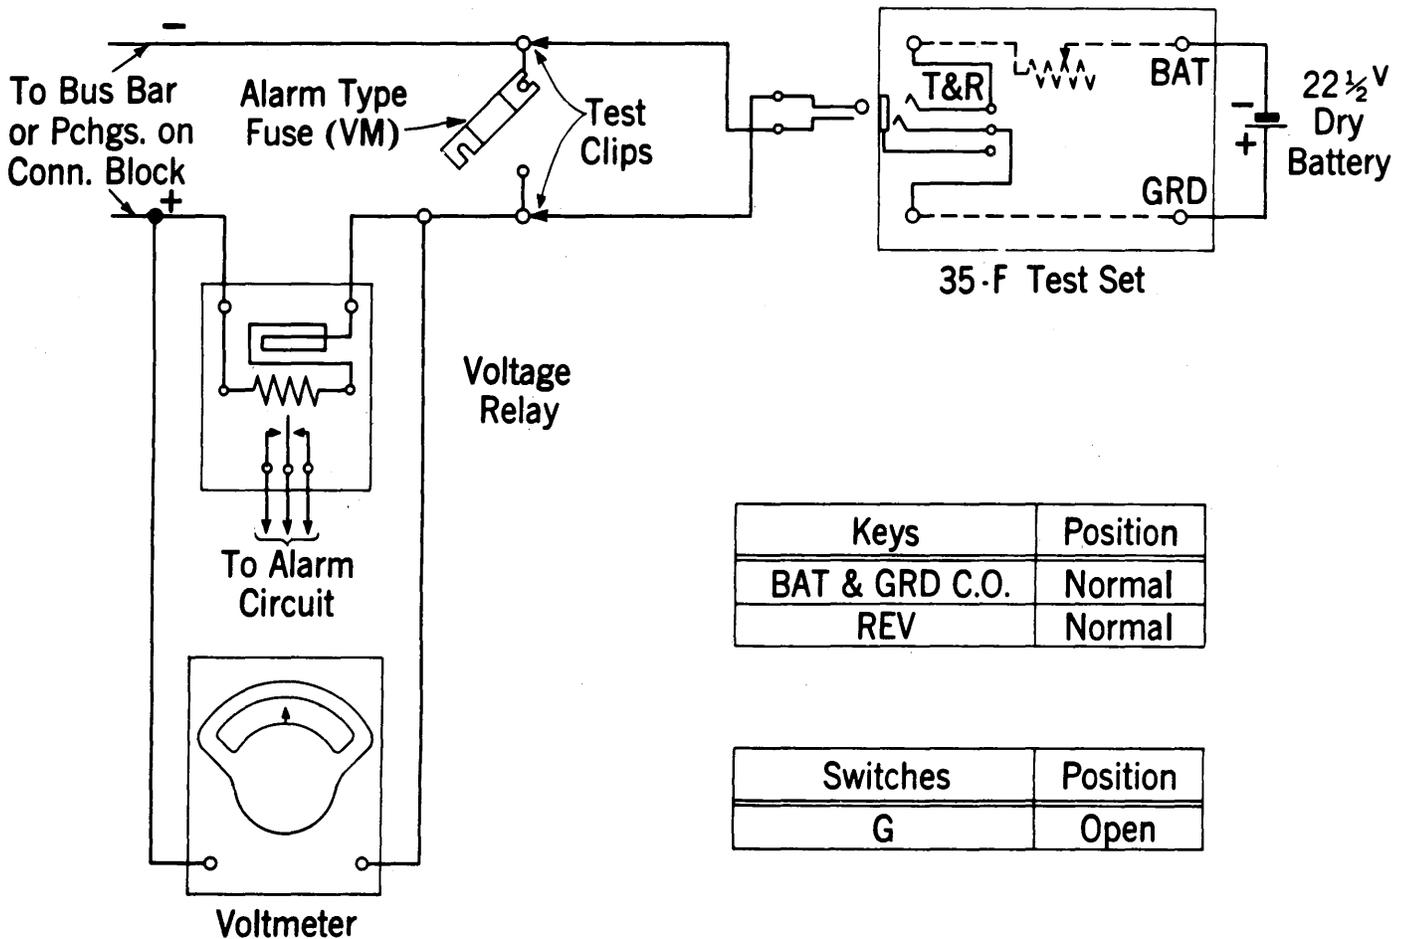

Fig. 1
Note 1: If the P B X is connected to a central office using Fig. 1-B of alarm circuit SD-21482-01, the extension alarm circuit may or may not function so as to change the lamp indications at the central office from a class A to class B lamp when the major trouble is retired at the P B X in which case the alarm bell will not ring.
3.69 **High, Low Voltage Alarm:** Connect the No. 35-F (or equivalent) test set and dry battery as shown in Fig. 1 to the circuit to be tested. Operate the knife switches associated with the No. 3 telegraph key of the No. 35-F test set to the position marked 0. See that the GRD key is open and that the REV and BATT and GRD CO keys are normal. Place the red resistance slider associated with the No. 3 key in its minimum resistance position (to the left). Place the corresponding black resistance slider in a position where approximately 1/2 of the resistance will be removed (1/2 of the distance from left to right). Close the No. 3 telegraph key of the test set and then remove the fuse (VM) in series with the voltmeter relay.